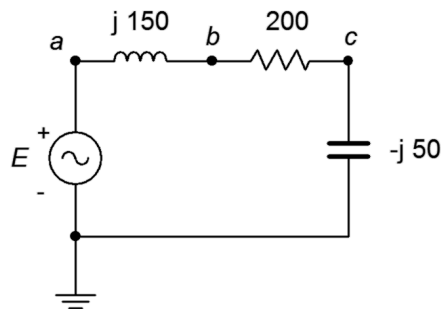

Figure 2.24
42. For the circuit of Figure 2.24, determine the circulating current and the voltages across each component. E is a 100 millivolt peak 250 Hz sine. Further, draw a phasor diagram of the four component voltages.